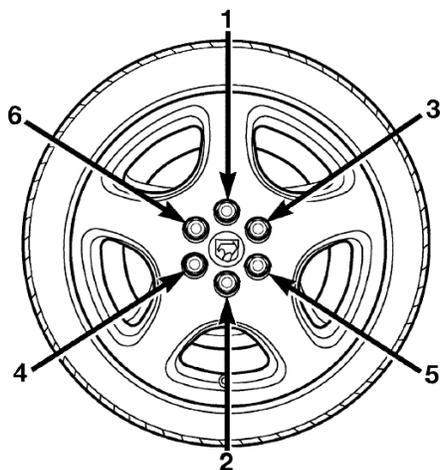

**Fig. 2 Battery removal**
5. Remove retaining bolt (3), and remove battery hold down (4), **Fig. 2**.